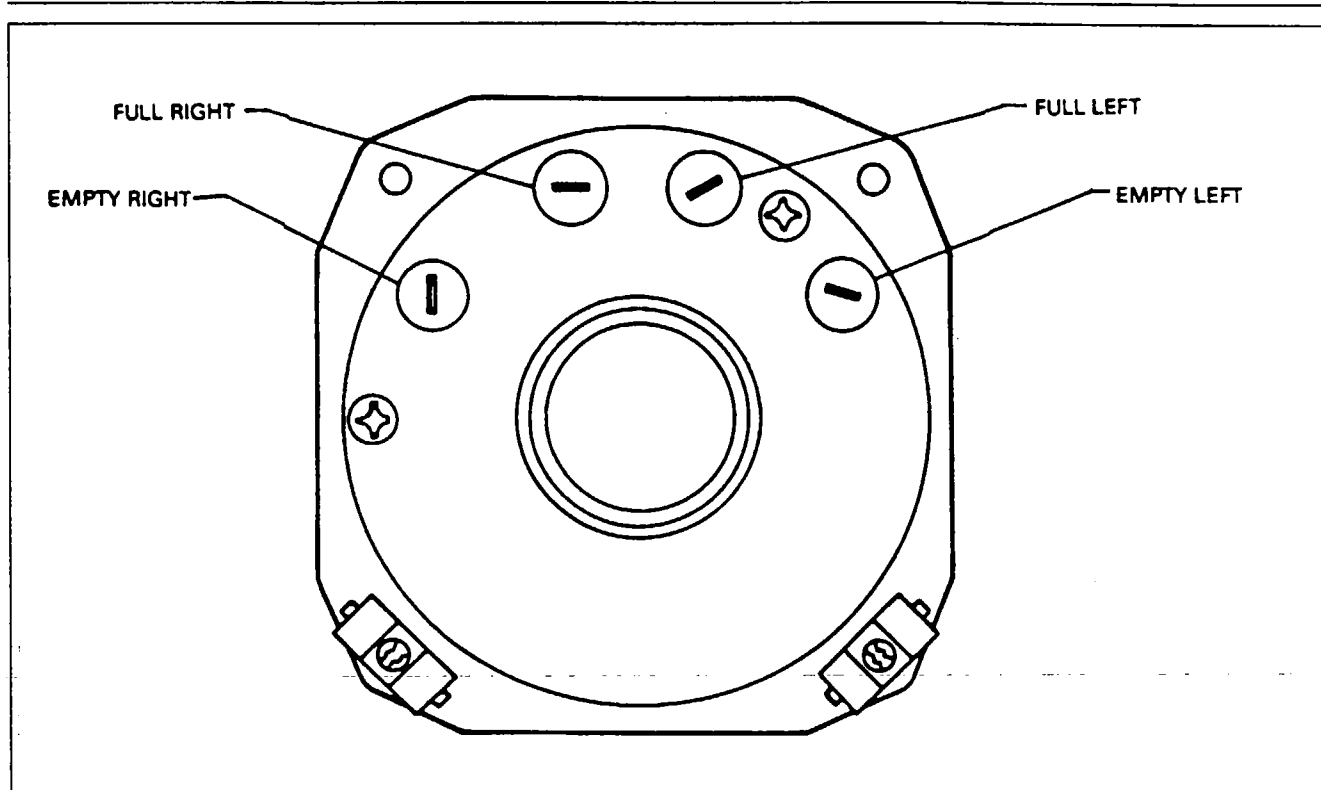

Figure 28-17. Fuel Gauge Adjustment
- B. See Figure 28-17 for location of indicator EMPTY and FULL calibration screws. Any calibration screw should have sufficient range to compensate for +/- 5 pF different capacitance at zero or 1200 pounds.